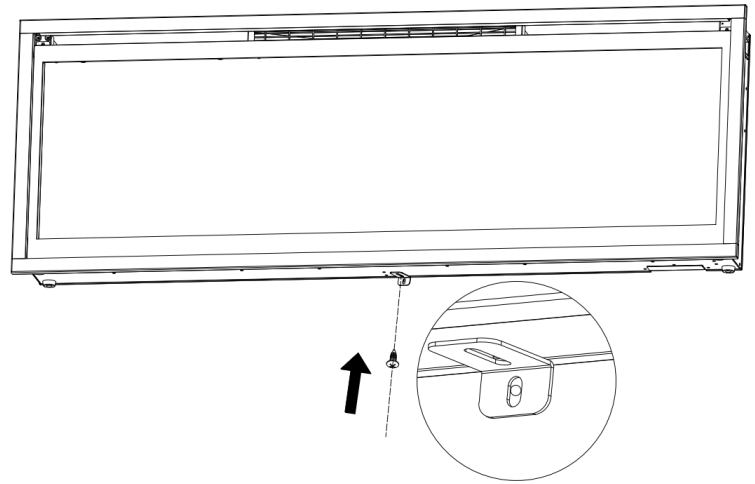

Fig 3-2
C. Using the screw previously removed, attached the L-bracket (supplied) to the bottom of the fireplace box. **(Fig 3-2)**